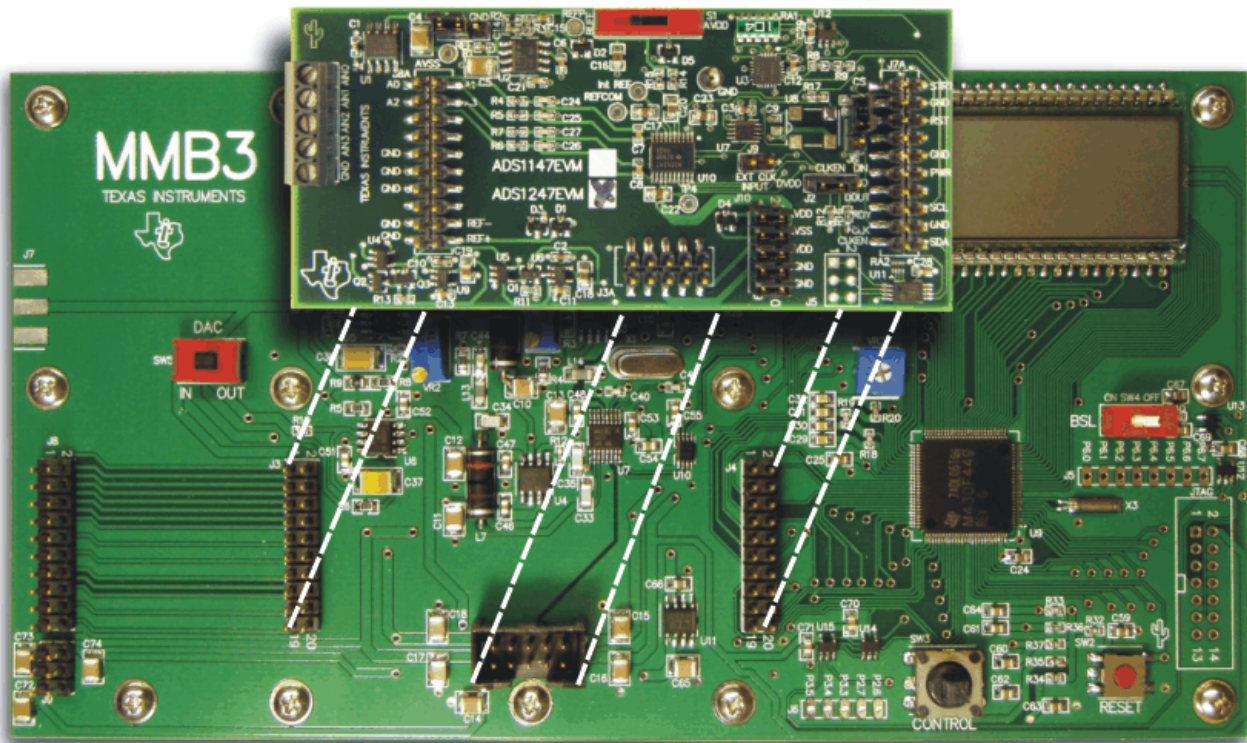

Figure 7. Connecting ADS1247EVM to MMB3
Step 3. Plug the ADS1247EVM into the MMB3 as Figure 7 illustrates.